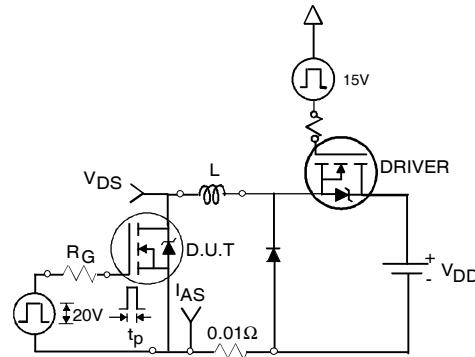

Fig 16c. Unclamped Inductive Test Circuit
- ⑥ Limited by $T_{J\text{max}}$, see Fig.16c, 16d, 19, 20 for typical repetitive avalanche performance.